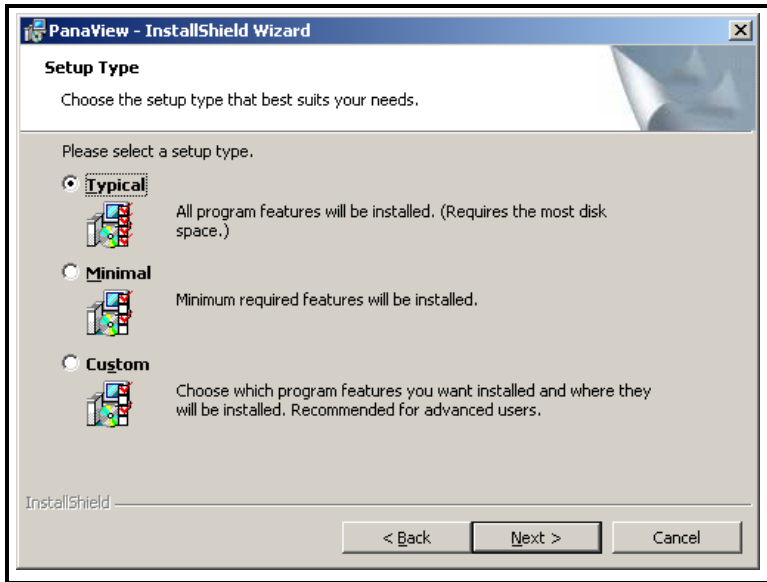

Figure 2-7: Setup Type Screen
7. At the screen shown in Figure 2-7 below, click the radio button for the type of installation desired. The following three options are available: